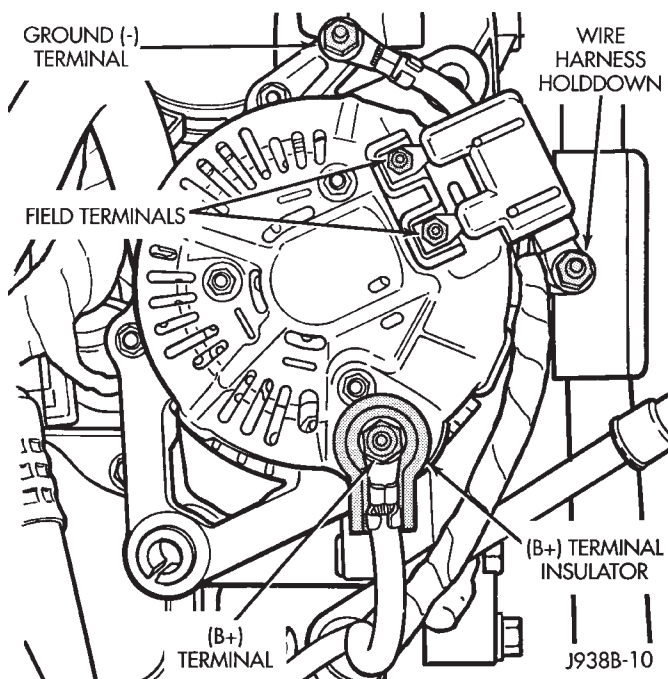

Fig. 6 Remove/Install Generator Connectors—5.2L/5.9L Engines—Typical
- (4) Remove nuts from harness holddown, battery terminal, ground terminal and 2 field terminals. Remove wire connectors. A typical generator wiring harness for 5.2L/5.9L engines is shown in (Fig. 6).